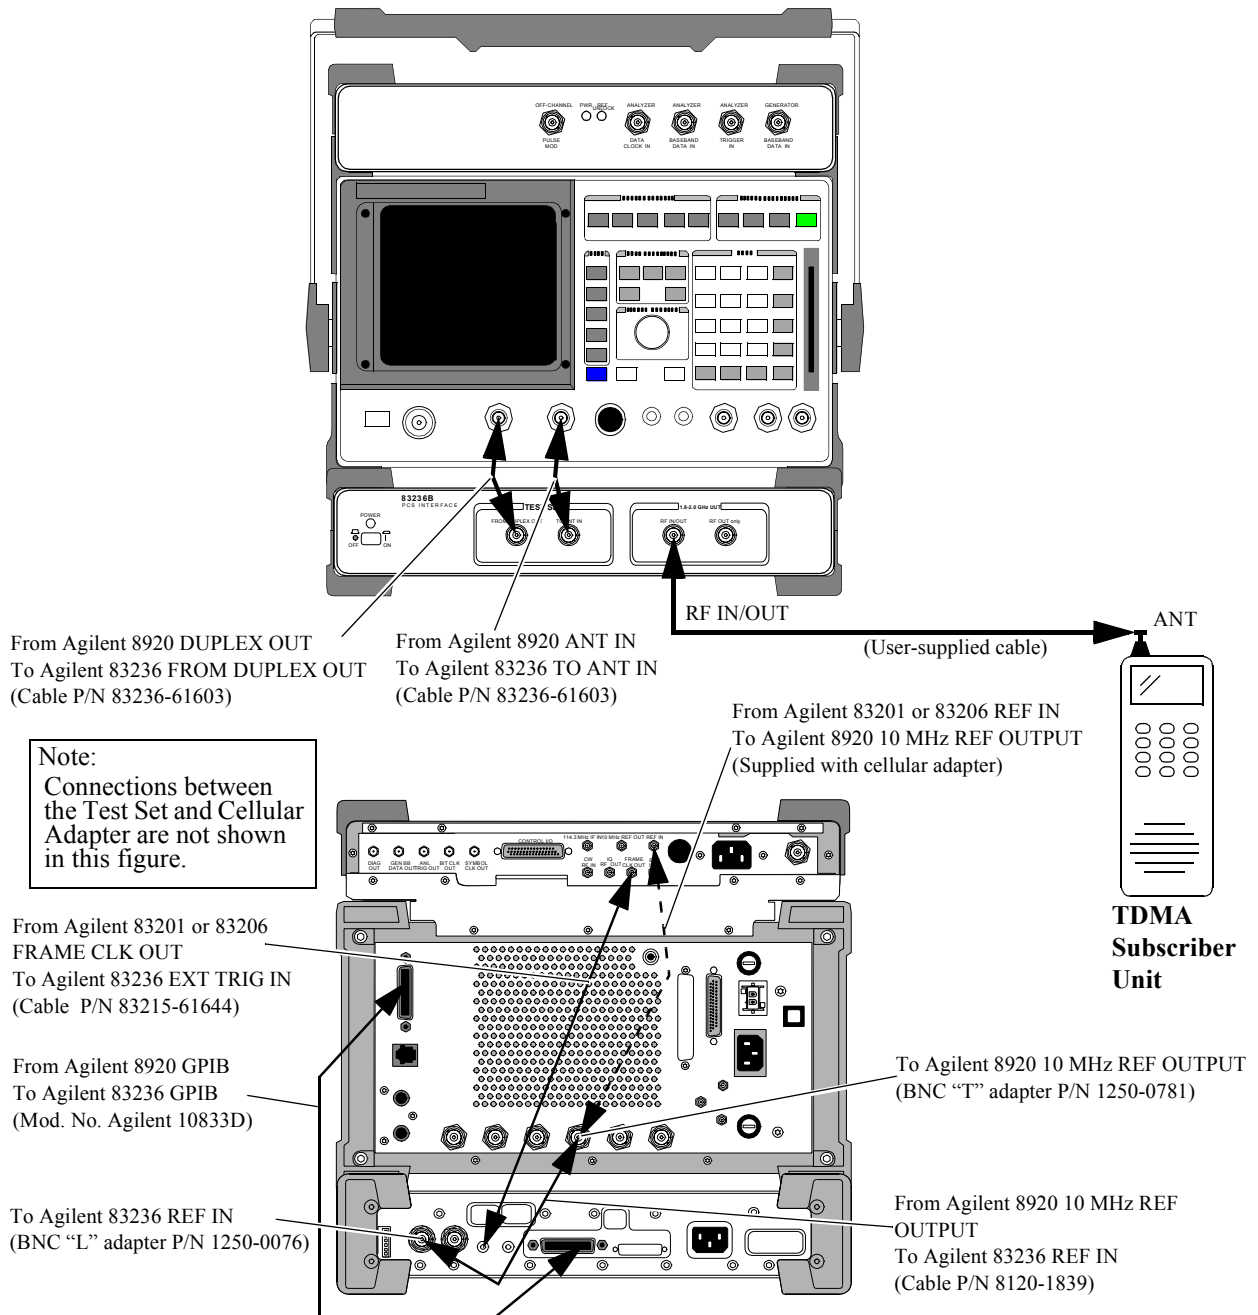

Figure 12 Connection diagrams for the Agilent 8920 Test Configuration (TDMA Subscriber Unit Tests; GPIB Control)
- 2 Make the front and rear panel connections shown in figure 12.